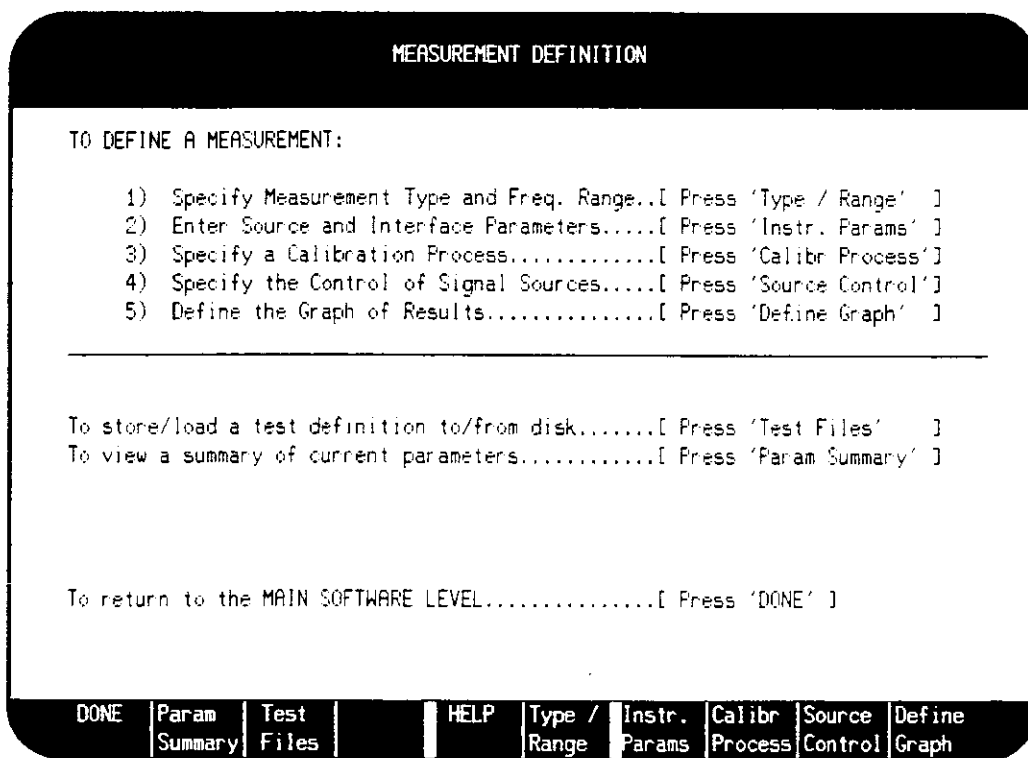

Figure 8-7. Measurement Definition Menu
5. On the HP 3048A press the **Define Msrmnt** softkey to obtain the Measurement Definition menu. Refer to figure 8-7.